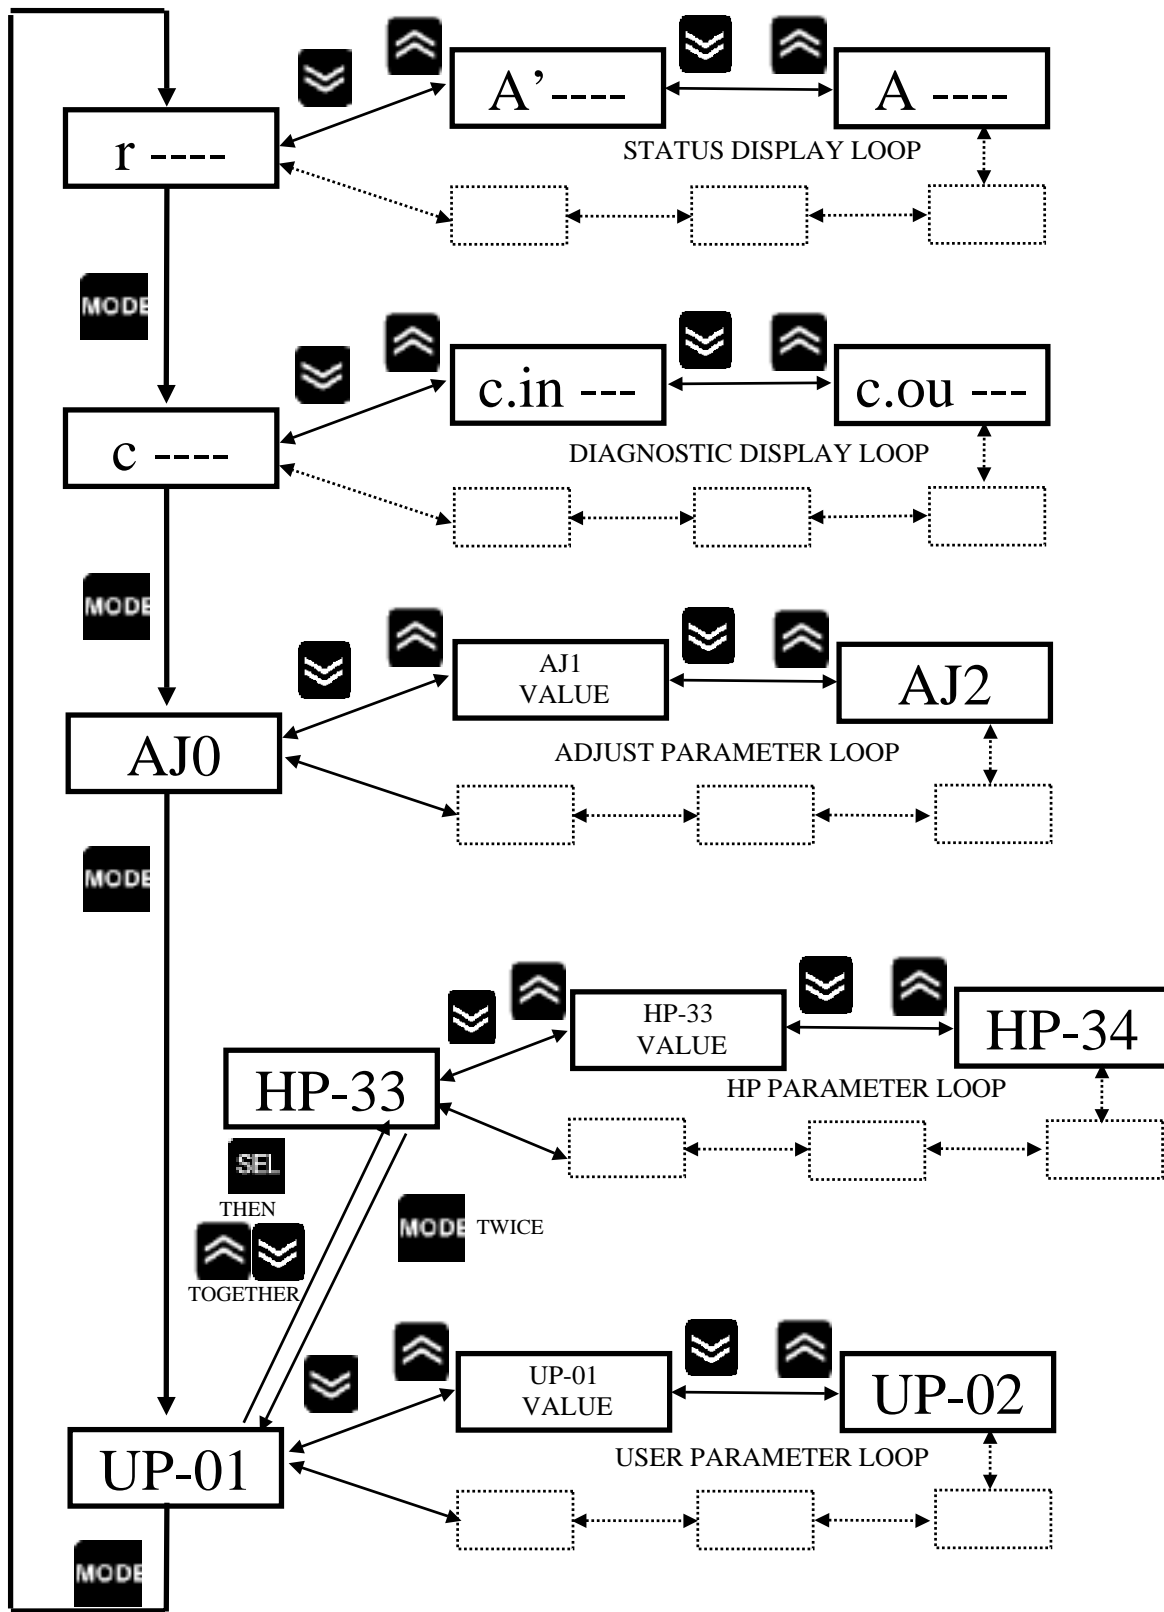

Figure 3.2 - Main Menu Loop and Minor Loops
The menu structure for programming the driver consists of a main menu loop with several minor menu loops and the Special Menu. The main menu loop and partial sections of the minor loops are shown in **Figure 3.2** below.
- Navigate the main menu using the    keys to get the parameter name to be changed in the display. See Figure 3.2.